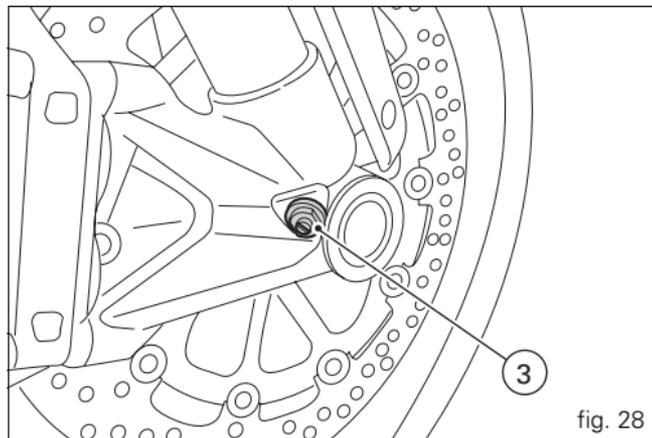

fig. 28
Front fork adjusters (MS4R) (fig. 27 and fig. 28)
- 3) (fig. 28) to adjust compression damping.
To adjust the rebound damping setting, turn the adjuster (1) on the top of each fork leg with a flat screwdriver. To turn the adjuster (3, fig. 28), insert a screwdriver through the base of the fork tube and the hole in the wheel axle as shown. Adjusters (1) and (3) have click positions corresponding to different damping settings.